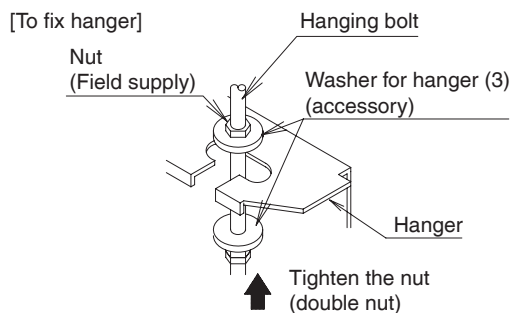

Fig. 7
(1) Install the indoor unit temporarily.
Make sure to securely fix the hanger with the nut and the washer for hanger (3) from the upper and lower side. (Refer to Fig. 7)